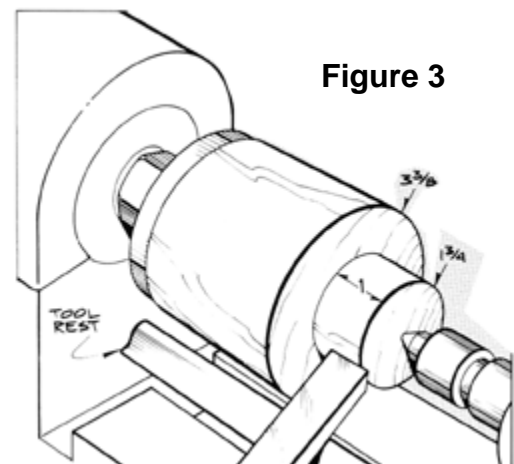

Figure 3
8. Use a square scraper to reduce the right end of the cylinder to 1-3/4" diameter and approximately 1" long (**Figure 3**).